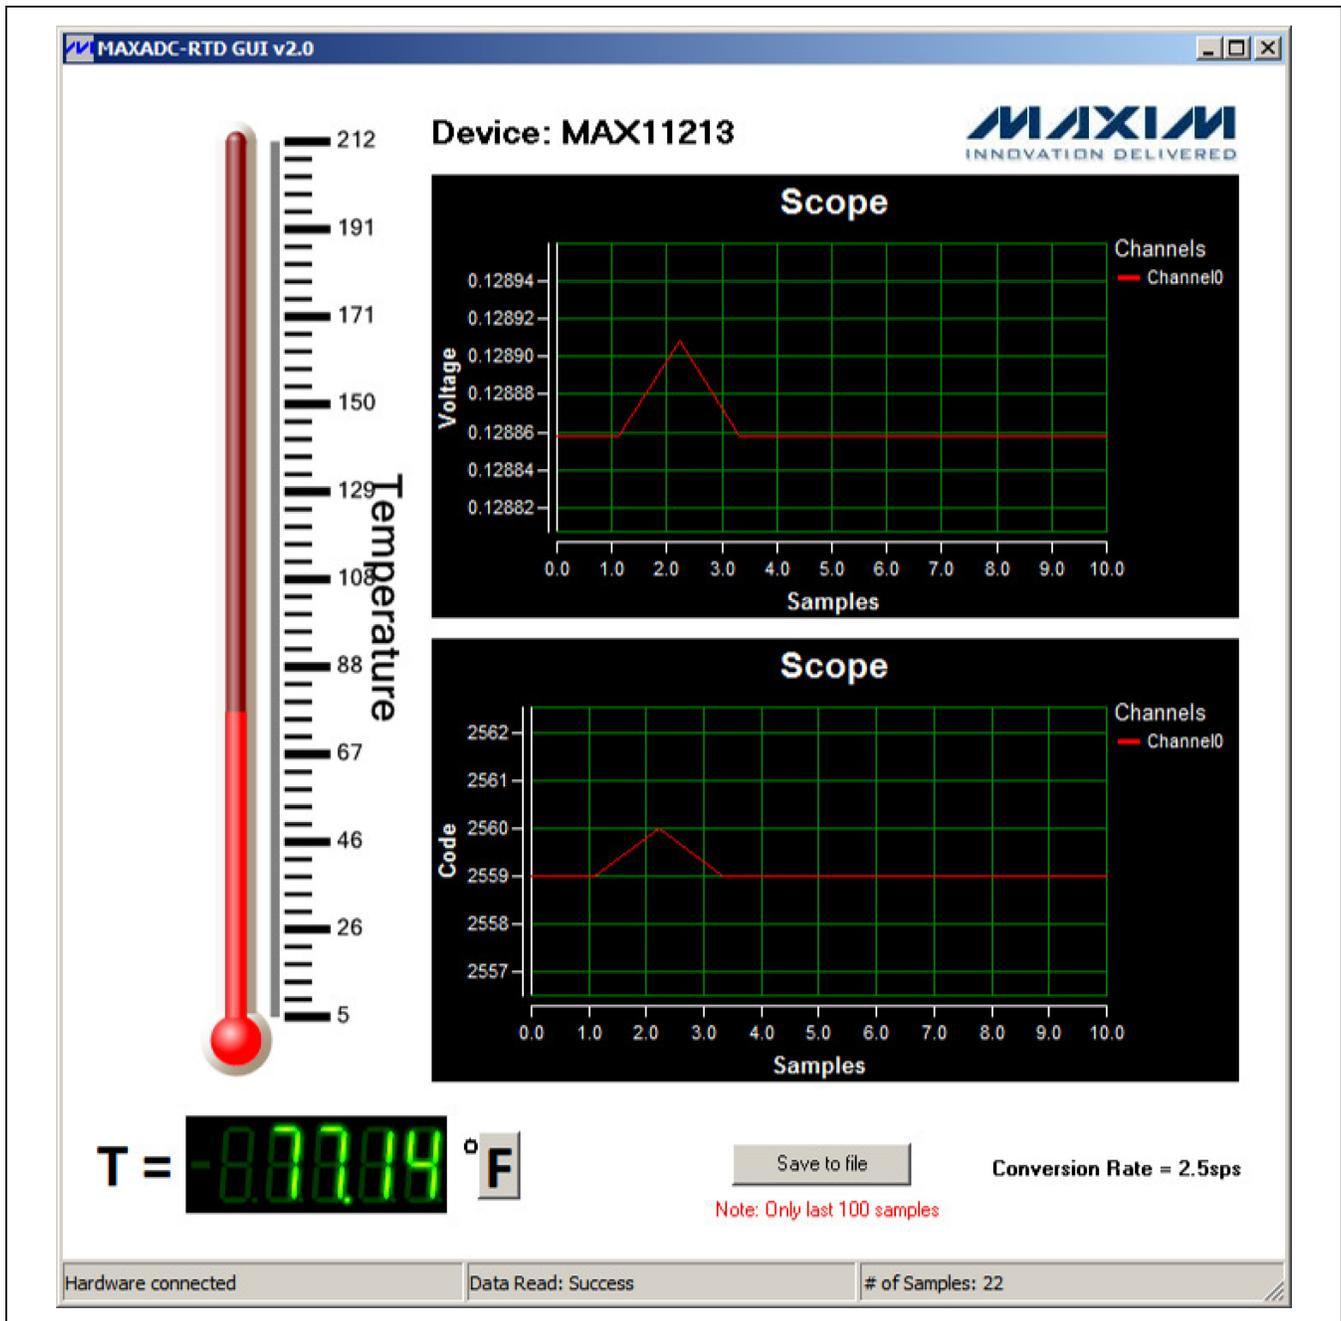

Figure 2. MAXADC-RTD GUI Application
- 3) The status bar displays the **Hardware Connected** message and temperature acquisition begins at 2.5sps. Data is also displayed in terms of voltage and code values read by the ADC (see Figure 2).